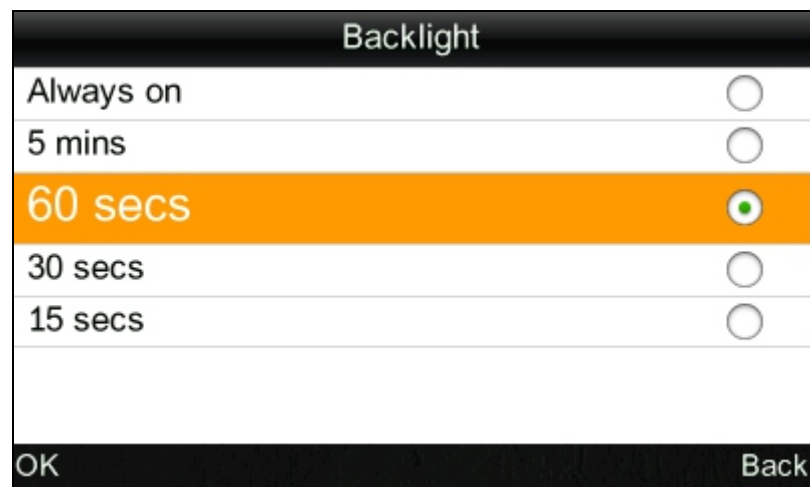

Figure 53 Backlight Time Setting Interface
- e) Select "Settings" - "Backlight Time" to enter an interface shown in Figure 53. When the instrument is in idle state, you can set the backlight time to save electricity consumption.